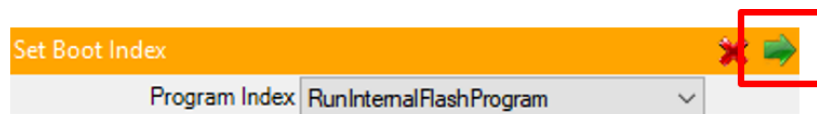

Figure 6 – Set boot index
- In the Firmware section under the Set Boot Index sub-section, set the program index to *RunInternalFlashProgram* by clicking the option from the drop-down list as shown in Figure 6 where the header will change colour to orange.